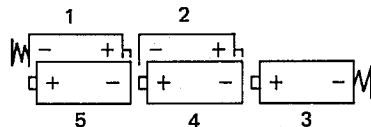

Fig. 3
3. Install 5 "UM-1" (D) size batteries exactly as shown in Fig. 3.